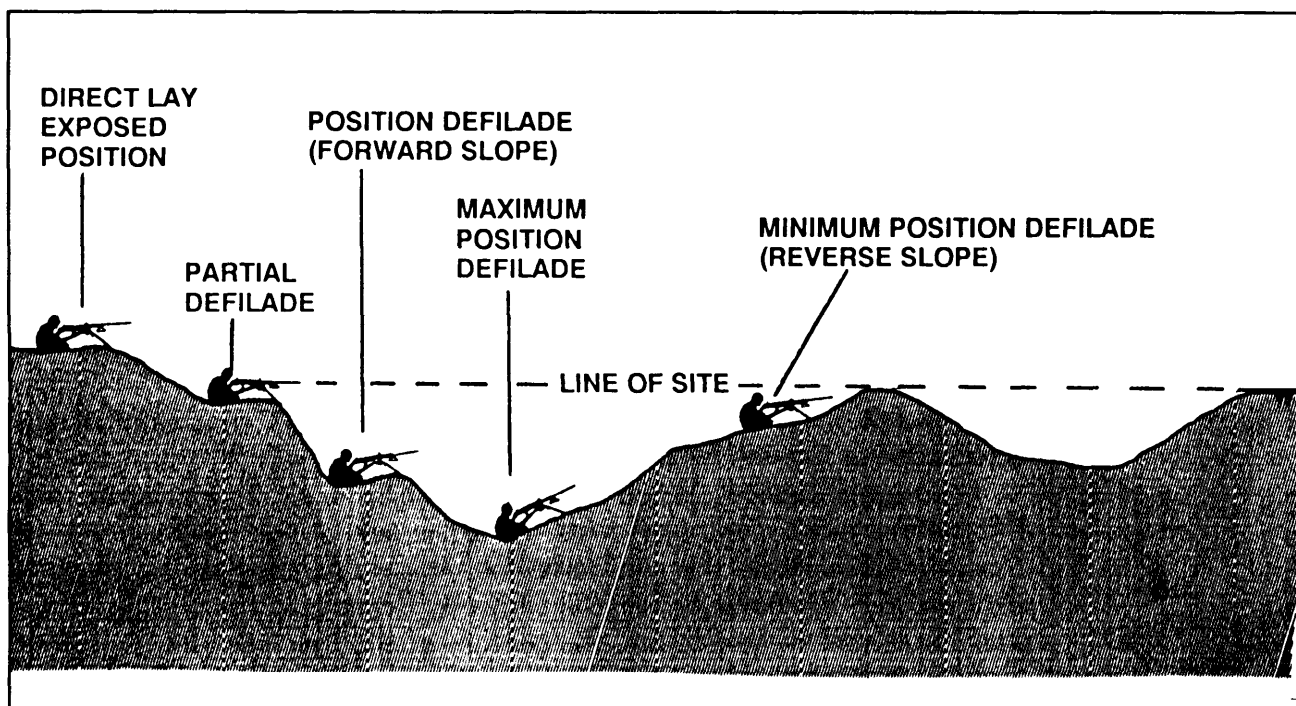

Figure 6-15. Minimum and maximum position defilade, partial defilade, and direct lay areas.
a. **Full Defilade.** A machine gun is in defilade when the gun and its crew are hidden from enemy ground observation by a land mass such as the crest of a hill. The position may be on the reverse side of the crest or the forward slope of the next higher ground (Figure 6-15). The gun must fire up and over the hill. Fire must be observed and adjusted by a crewmember who can observe the target from a position on a flank or to the rear of the gun (on higher ground). A defilade position allows little opportunity to engage new targets.